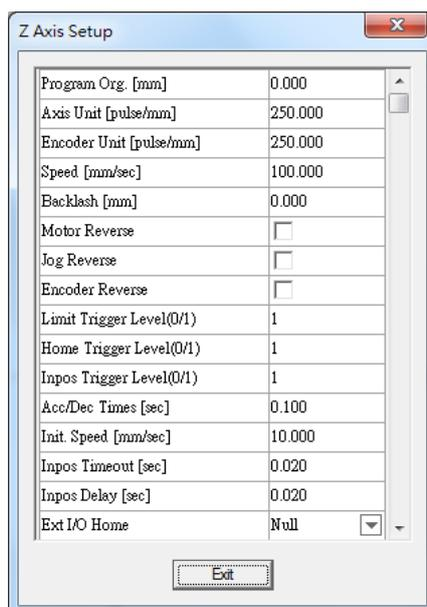

Fig. 7.3.03
6. Click “SETUP...” and do more detail settings, see Fig.7.3.03.